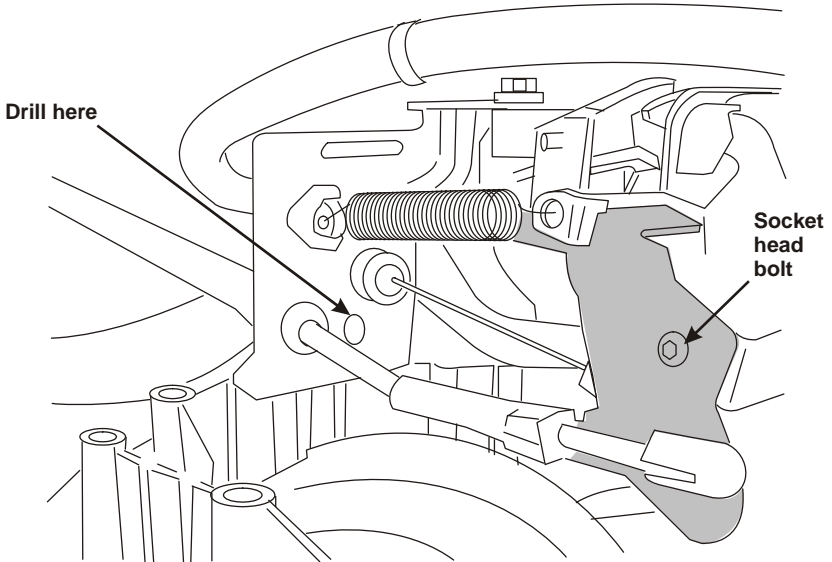

Figure 4.5
- Drill a 13/32 inch hole in OEM throttle cable bracket (Figure 4.5).
- Locate the pull bracket slot under the spring connection plate, fit the supplied throttle pull bracket to the OEM throttle cam arm and fasten it in place with a 10-32 socket head bolt (Figure 4.5).